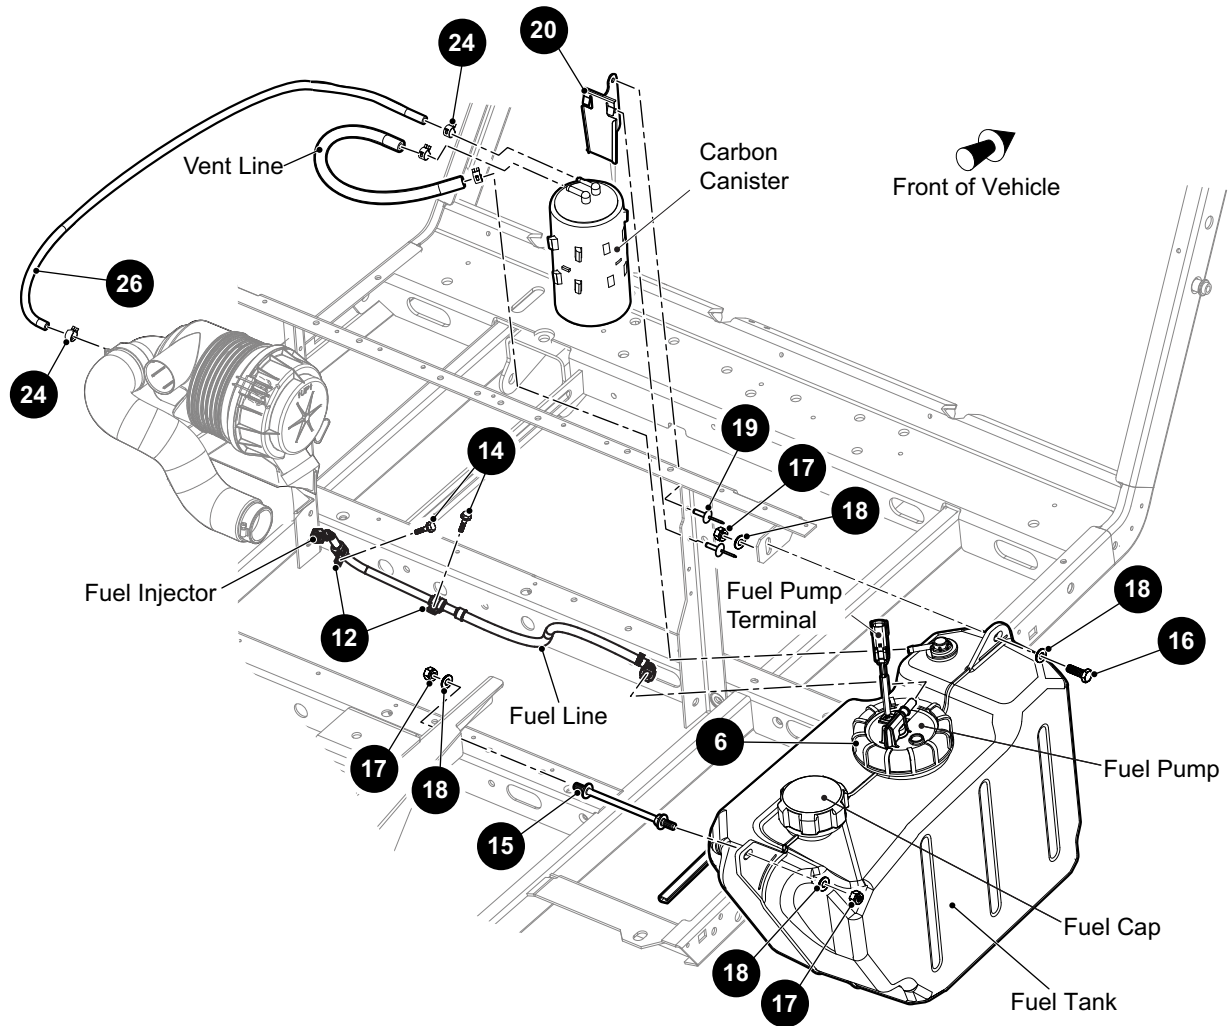
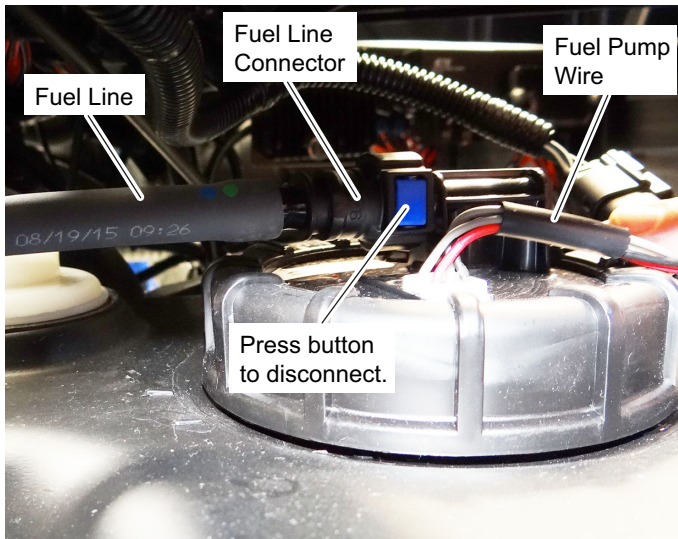

Fig. 1 Fuel System
Fig. 3 Fuel Tank Connections
An electric fuel pump supplies fuel from the fuel tank to the engine injection system through the fuel line (See Fig. 1). The fuel filter is located in the fuel tank along with the fuel pump.
The fuel tank, fuel line, vent line and fuel tank cap should be checked frequently for leaks, clogs or damage (See Fig. 1).
4. Disconnect the fuel line from the tank by pressing the button on the fuel line connector while pulling the connector away from the tank (See Fig. 3). Plug the fuel line to prevent fuel leakage.
5. Disconnect the tube (12) to the carbon cannister.
6. Remove the forward hex nut (17), washers (18), and bolt (16).
7. Remove the rear nut (17), washers (18) and spacer (15).
9. Installation is in reverse order of removal (Ref. Fig. 1).